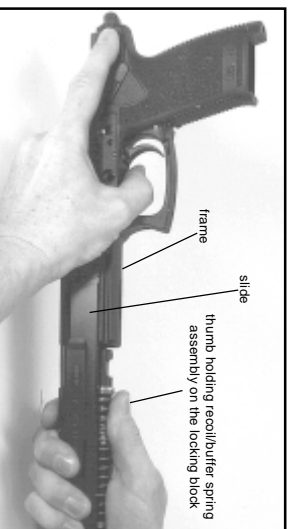

Figure 13 Correct Position for Holding Slide for Reassembly
6. Hold the slide in the right hand with the thumb holding the rear end of the recoil/buffer spring assembly in place on the slide (see Figure 13).